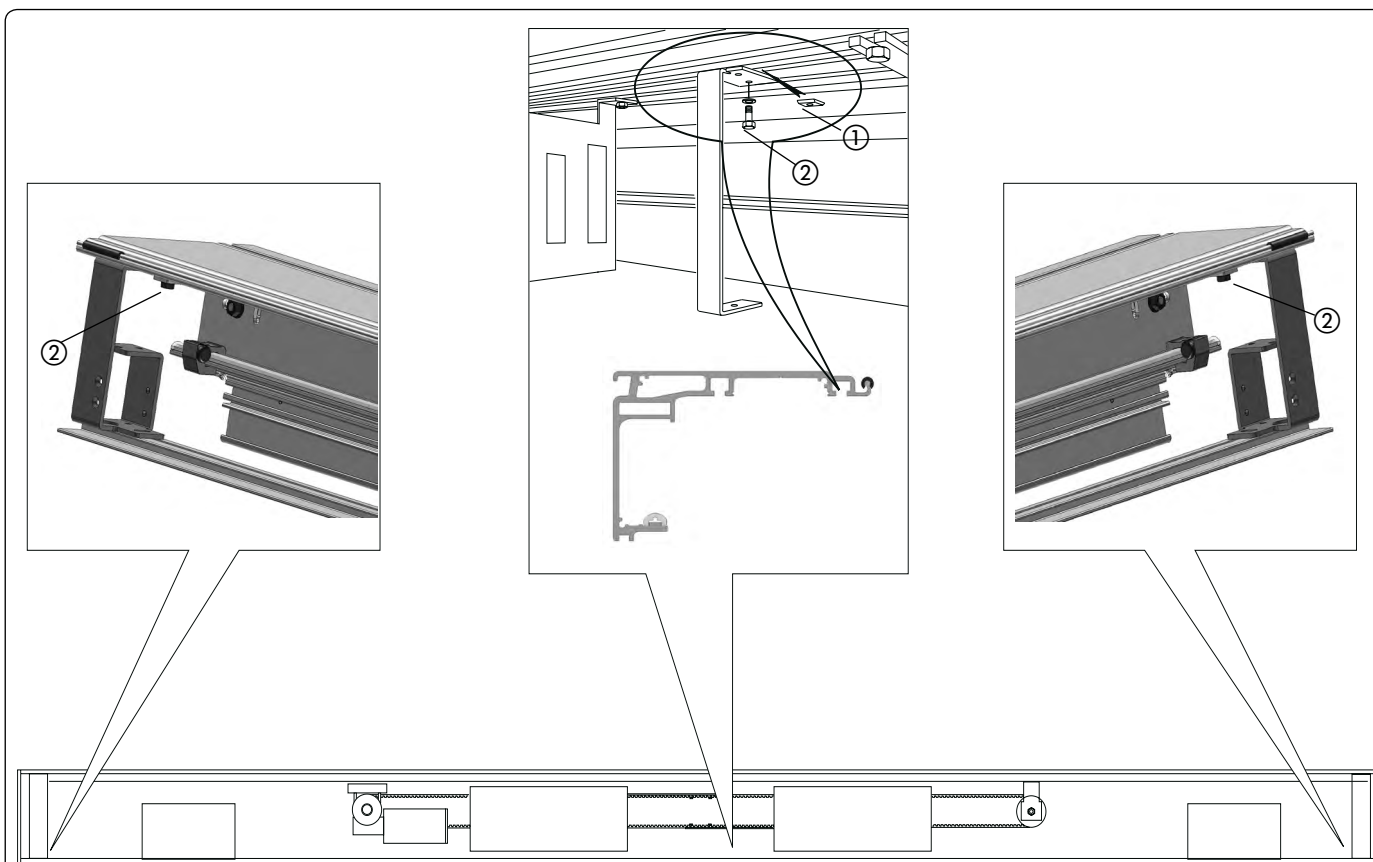

fig. 61
Fit another 2 plates at the centre of the header for securing the central bracket as shown in fig. 61 ref. ①.
Secure the three brackets, using the appropriate screws as shown in fig. 61 ref. ②.